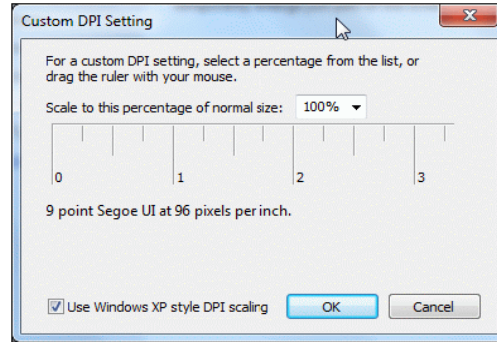

FIGURE 54.
- The screen shown in Figure 54 may be caused by the PC monitor. The solution is to resize the set custom text size (DPI) by going to Control Panel ->Appearance and Personalization -> Display -> Set custom text size (DPI) and choose “Scale to this percentage of normal size: 100%” (96pixels/inch).